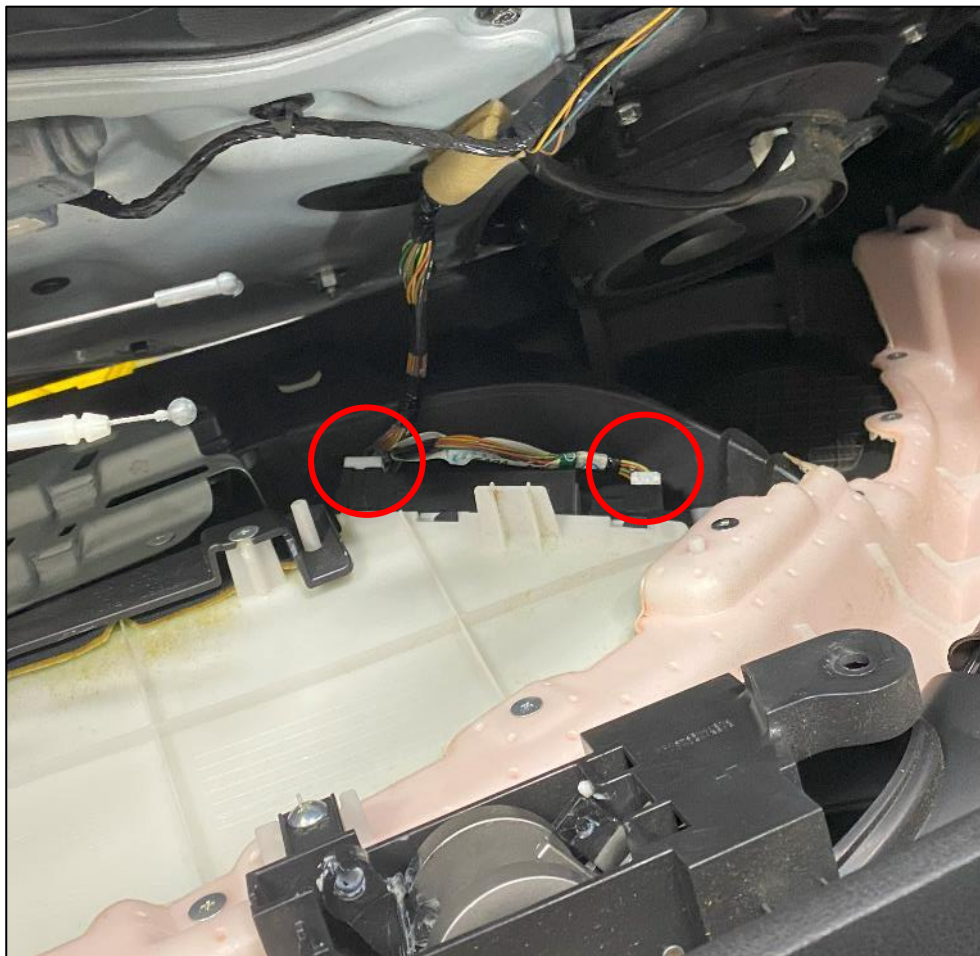

Figure 41
9. Disconnect the (2) two Door Panel Control connectors at the bottom of the Door Panel. *Figure 41.*